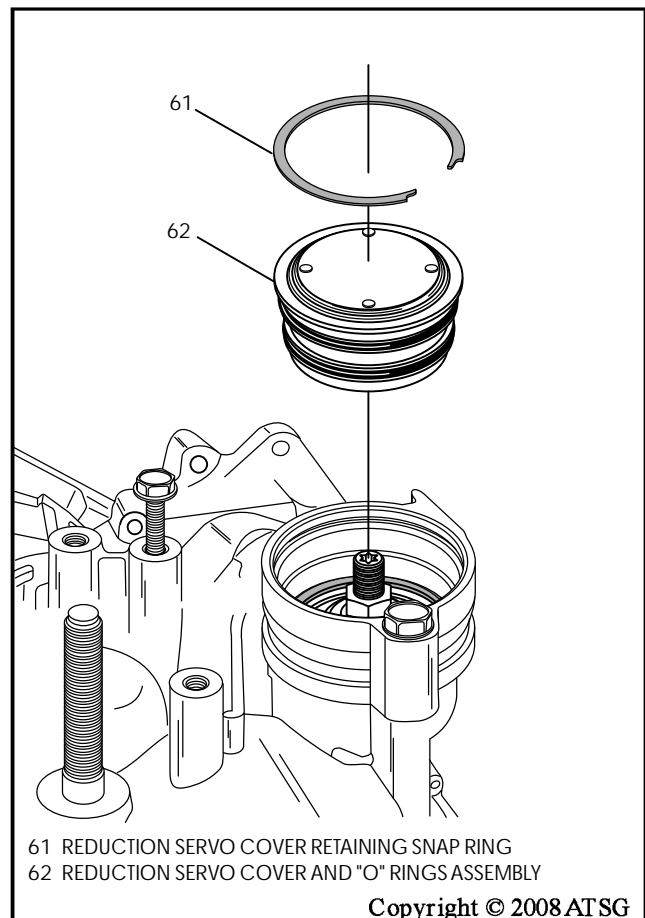

Figure 45
39. Remove the snap ring holding the reduction servo cover in place, as shown in Figure 45.
40. Remove the reduction servo cover assembly, as shown in Figure 45.